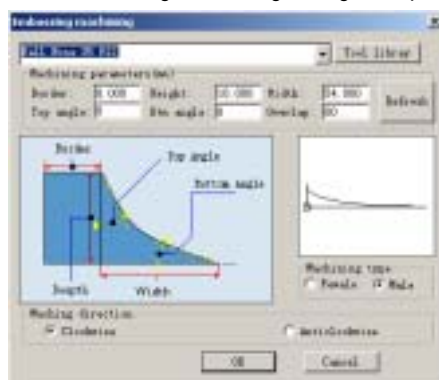

Fig. 12-58
3. Click on the shortcut icon  on Tool Path Bar or click Tool path->Embossing machining command in the menu bar. Then the Embossing machining dialog is displayed. (Fig. 12-58)